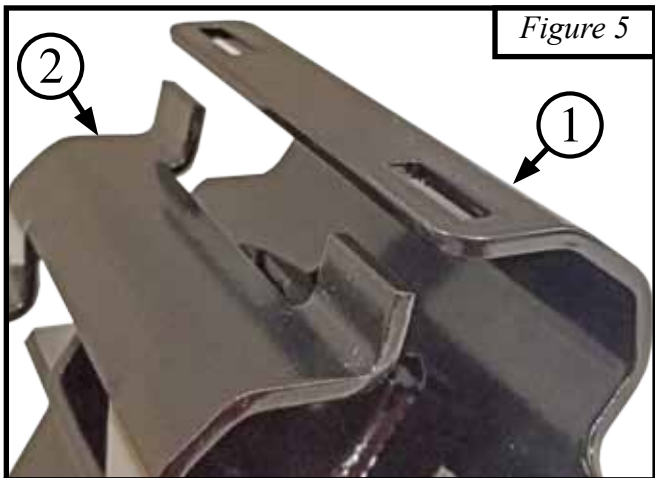

Figure 5
3. Hook the bracket (2) into the slots on the top of the receiver (1) around the tubing. Shown in Figure 5.